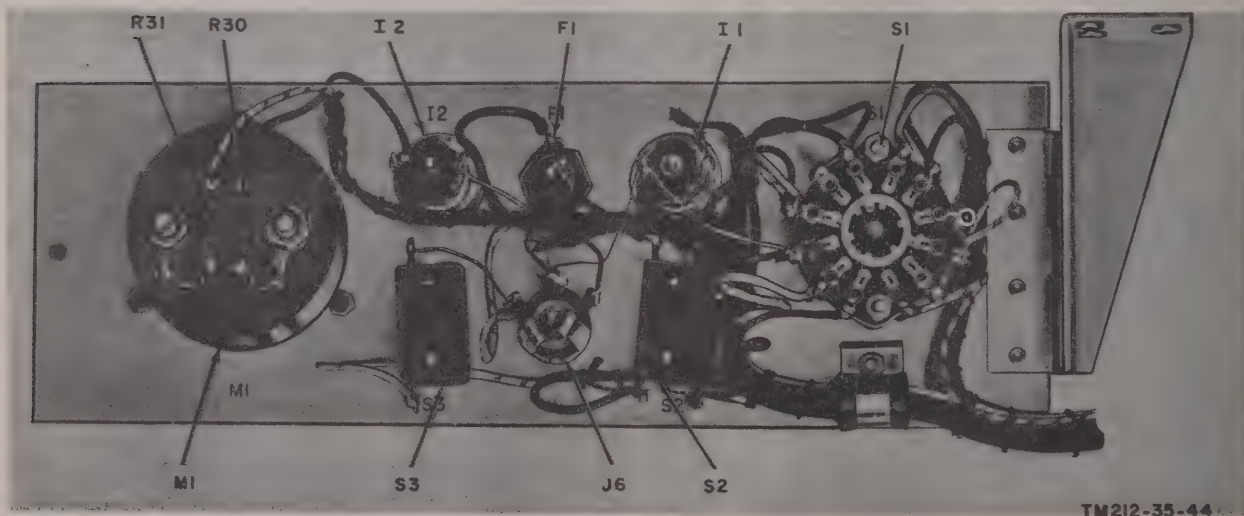

Figure 41. Transmitter panel, location of components.
a. *General.* Procedures are outlined in the following chart for localizing troubles to the oscillator, tripler, driver, power amplifier, and modulator stages of the transmitter. Location of parts is shown in figures 41, 42, and 43. Depending on the nature of the operational symptoms, one or more of the localizing procedures will be necessary. When use of the procedures results in localization of trouble to a particular stage, use the techniques outlined in paragraph 56 to isolate the trouble to a particular part.
b. *Use of Chart.* Troubleshooting chart supplements the operational checks detailed in the equipment performance check list (TM 11-212-20) and the interunit sectionalization check described in paragraph 47. If no operational symptoms are known, begin with item 1 of the equipment performance checklist (TM 11-212-20) and proceed until the trouble is located.